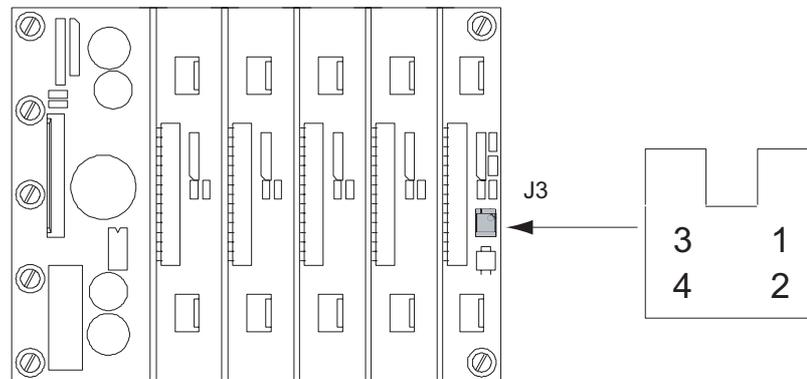

Figure 6-83 Correct connection of solenoid cable to the backplane
- When connecting the solenoid cable (8-39) to the backplane, make sure the cable connector is positioned in the right direction (see Figure 6-83).
- When connecting the solenoid cable (8-39) to the backplane, make sure the solenoid cable connector is positioned in the right direction (see Figure 6-83).